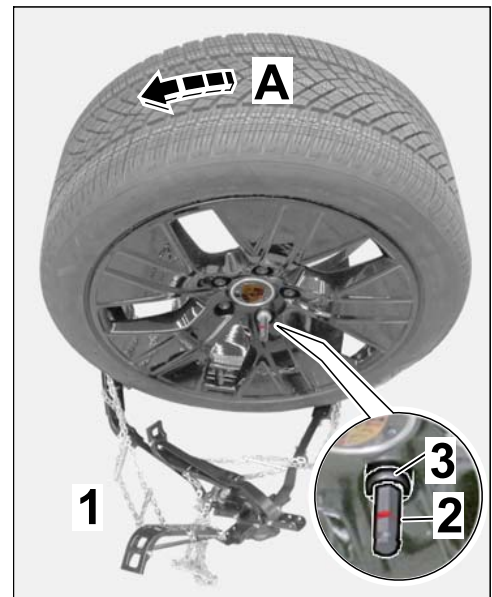

Figure 12
3.4 Drive off the snow chain net (⇒ *Figure 12-A*).
3.5 Remove spacer bolt with clamping sleeve and clamping piece from wheel bolt (left ⇒ *Figure 12-inset-/right rear wheel*).